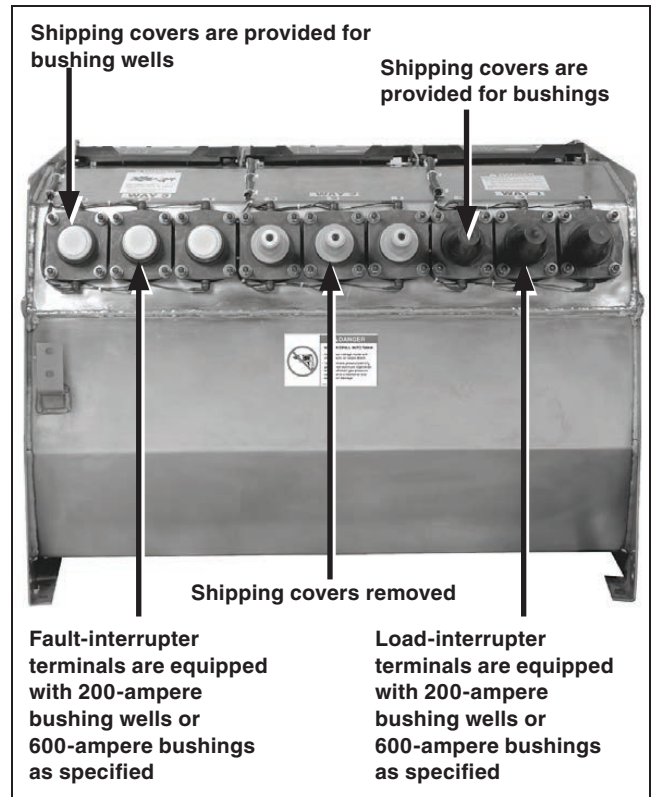

Figure 109. A Vista switchgear tank with shipping covers. (Manual unit shown for illustration purposes.)
STEP 1. Remove the shipping covers from the bushings and bushing wells. See Figure 109.